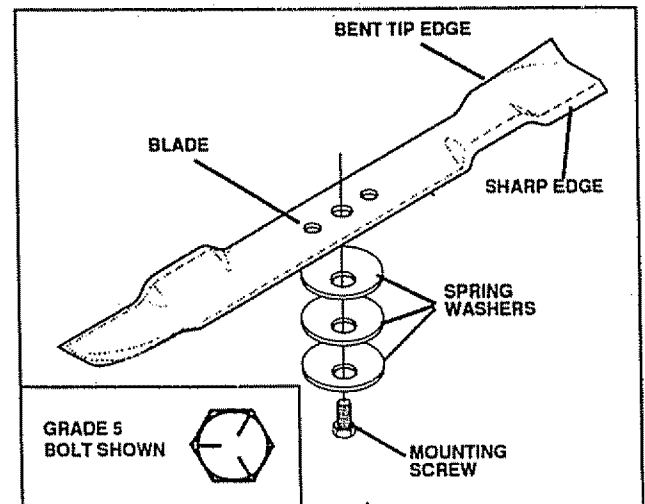

FIG. 11
**IMPORTANT:** Blade mounting bolts are Grade 5 heat treated as shown in FIG. 11 inset.